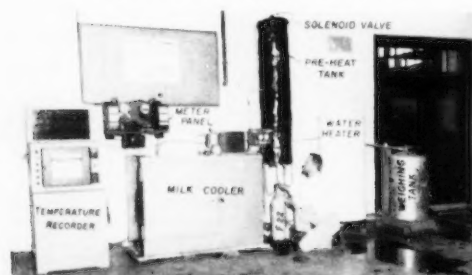

Fig. 1 Equipment used in tests showing temperature recorder, milk cooler, meter panel, preheat tank, water heater, and weighing tank.
**Major Equipment.** A 52-gal electric water heater having 3 in. of fiberglass insulation was used (Fig. 1). Both the 1500-w upper heating unit and the 1000-w lower unit were controlled with individual thermostats. The milk cooler was a 4-can, 1/4 hp, Unico model, using F-22 refrigerant. The preheat tank consisted of a conventional 30-gal water tank around which 2 in. of mineral wool insulation was placed. Temperatures were recorded with a 16-point strip chart potentiometer.
**Exterior Woodwork.** Most decay in siding and exterior trim is that resulting from seepage of rainwater into joints. If wood siding extends to the ground, more serious decay may result. Wood siding and trim should be at least 6 in above the soil. Window and door trim or any other projections from the wall need flashing at the top unless protected by roof overhang. All joints should fit snugly and the whole exterior should be designed so that water will run off quickly with a minimum of soaking into joints (Fig. 1). Extensive surveys in the Southeast disclosed (4) that most serious decay of siding and exterior trim was associated with the following:
Fig. 1 (Left) All joints in exterior woodwork should be designed so that water will run off quickly with a minimum of soaking into joints. The experimental step rail on the left, extending over the top of the newel, minimized water seepage. The rail on the right nailed to the side of the newel permitted heavy seepage, promoting early decay. • Fig. 2 (Right) On the job applications of preservatives can increase the service life of exterior woodwork off the ground but exposed to rain seepage. Shown here are experimental porch flooring units fully exposed for 2½ yr. The unit on the right was untreated, that on the left given a 3-min dip in 5 per cent pentachlorophenol in mineral spirits plus a moisture repellent.